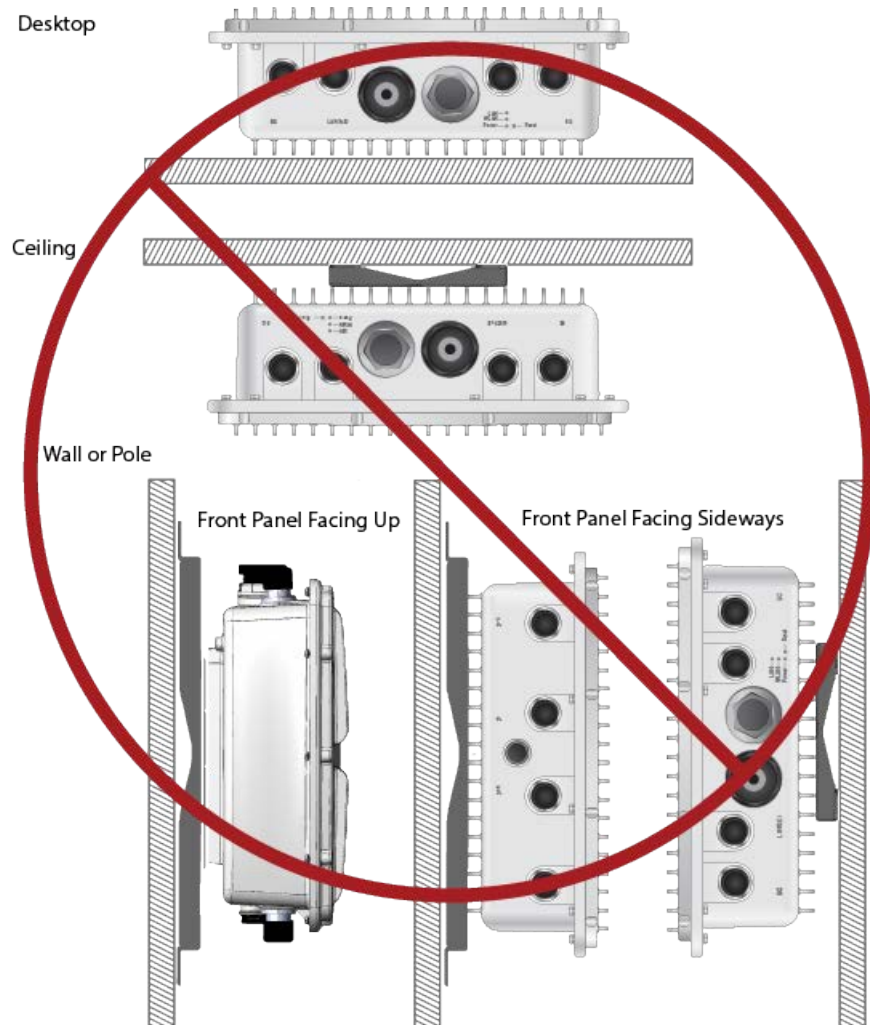

Figure 26. Invalid Orientations of the Access Point
- ❑ The access point must not be installed in the orientations shown in Figure 26.
For the orientations of the access point, see Figure 26 on page 55.